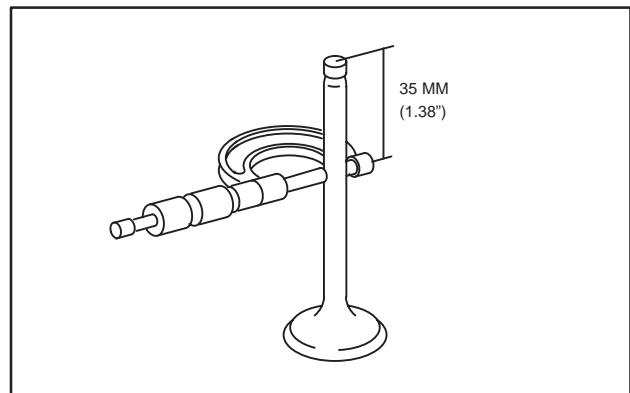

Fig. 19 – Measure Valve Stem Diameter
7. Measure valve stem diameter at specified distance from end of valve, as shown in Fig. 19.